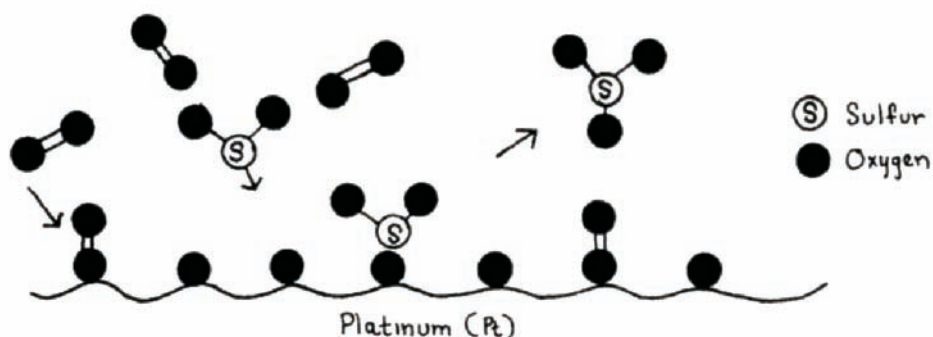

Figure 5.4. Using Platinum to Catalyze the Formation of SO_3 .
Sulfur dioxide (SO_2) is oxidized to sulfur trioxide (SO_3) when sulfuric acid (H_2SO_4) is prepared. This process would be very slow without the use of a platinum catalyst. When the platinum catalyst is used, oxygen molecules are adsorbed on the platinum surface, where they dissociate into very reactive oxygen (O) atoms. The oxygen atoms are situated on the platinum-surface negative space, from which an SO_2 molecule can pluck an oxygen atom and escape as an SO_3 molecule (see Figure 5.4). The following chemical change has occurred [_(g) denotes “gas”]: $2\text{SO}_{2(g)} + \text{O}_{2(g)} \rightarrow 2\text{SO}_{3(g)}$. An intermediate step involves the oxygen (O_2) dissociating into separate oxygen atoms with the aid of the platinum surface. The reactants and product are in the gas phase and the catalyst is a solid, thus making the platinum a heterogeneous catalyst. If we consider the catalyst, the platinum, as being a microsculpture metal surface having an attractive shape and size, the shape and geometry of the microsculpture’s negative space is essential to the catalyst in enhancing the reaction rate. Considering the lock-and-key principle of catalyst operation, the platinum is the lock (keyhole) and the reactant O_2 molecule is the key. The platinum catalyst’s negative space is invaded by the O_2 reactant, providing a new, simple pathway to the formation of products. An uncatalyzed reaction pathway would be more complex and therefore take longer.